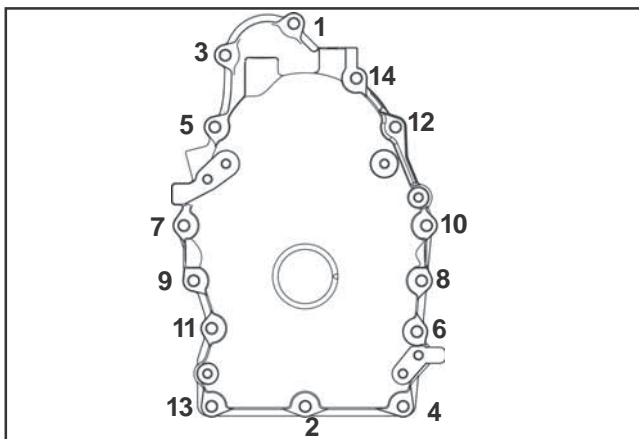

Figure 10-31. Closure Plate Fastener Torque Sequence.
6. Install the fourteen hex flange screws securing the closure plate to the crankcase. Torque the fasteners in the sequence shown in Figure 10-31 to 24.4 N·m (216 in. lb).